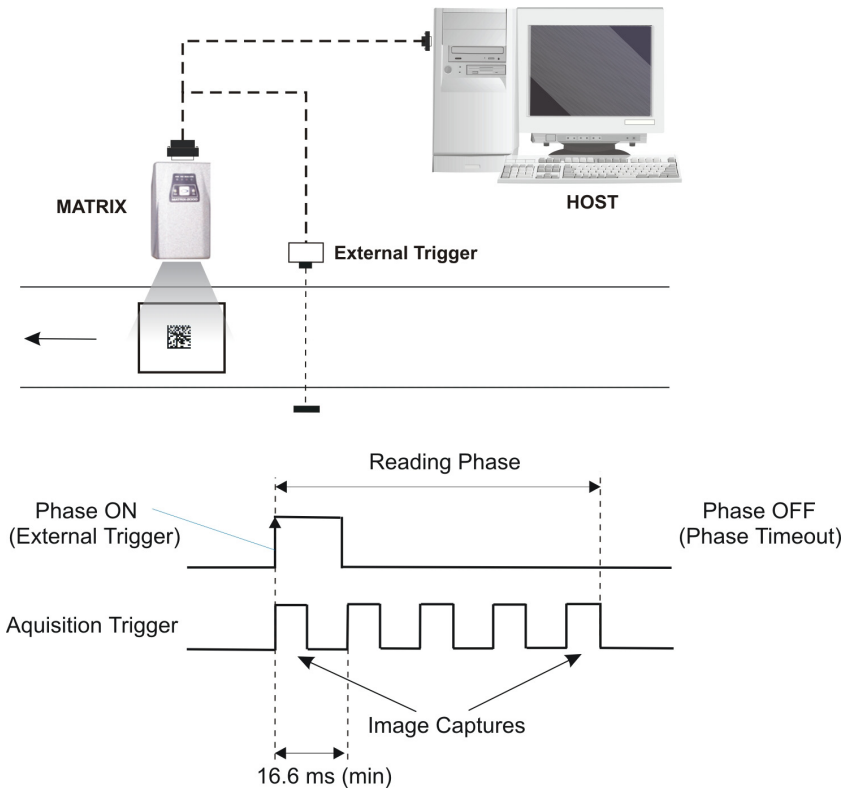

Figure 2 – Reading Phase using Phase ON only and Phase Timeout
- **External or Serial Reading Phase ON only:** a Leading/Trailing Edge on the reader inputs or a string on its serial ports starts the Reading Phase; when the configured Phase Timeout expires the reading phase is stopped (Figure 2).